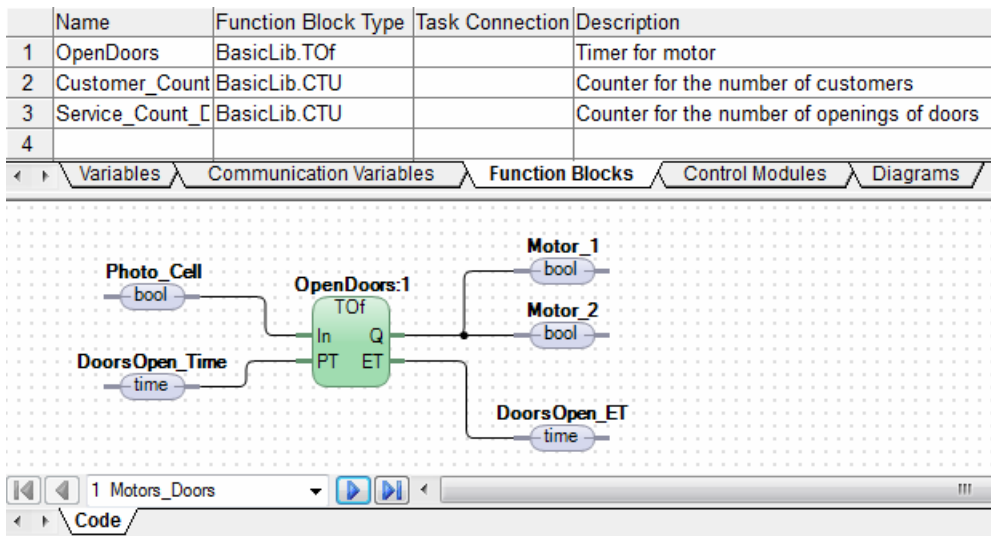

Figure 27. Variable connections to OpenDoors Function Block
4. Insert the variables **Motor_1** and **Motor_2** using any of the methods. The variable **DoorsOpen_ET** is already present in the grid area. Connect these three variables to the parameters as in Figure 27.
The output Q parameter is a Boolean signal, which represents the status on the door position (open or closed) and is passed on to the motors. For both doors to open, the Q signal must be passed to both motors. The variables Motor_1 and Motor_2 are connected as in the Figure 27.